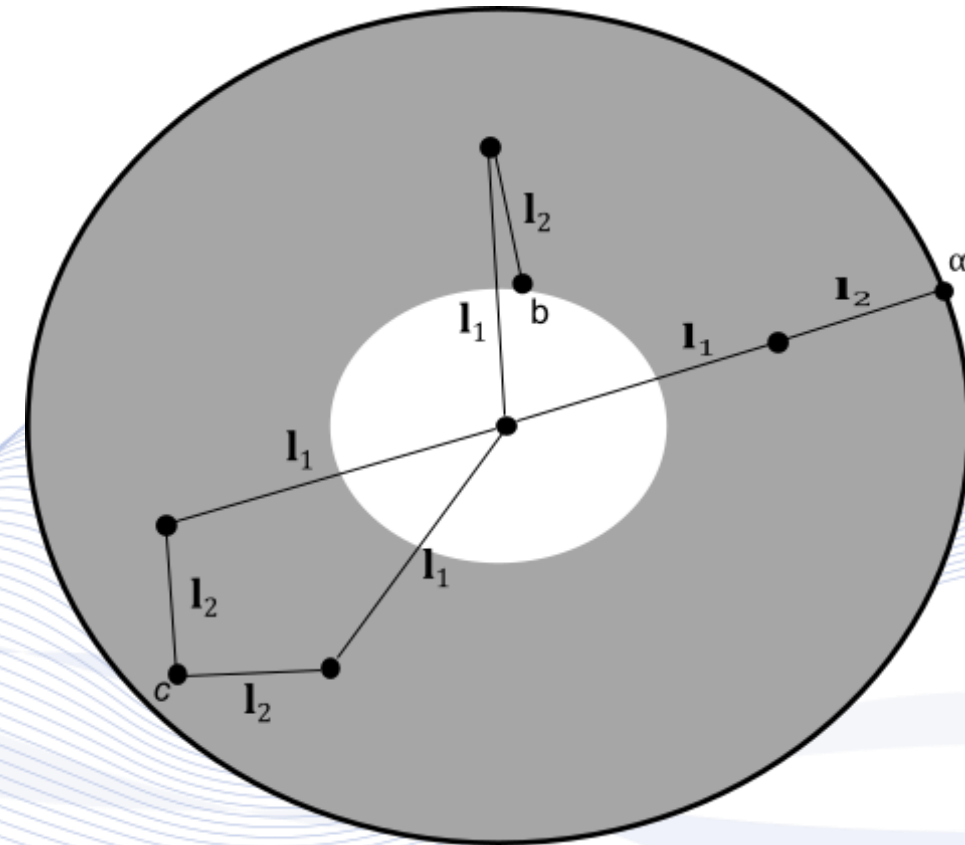

Fig 3: workspace of a robotic arm
- We can also have position “ c ” which our robotic arm can reach with two ways as showed in Fig 3.